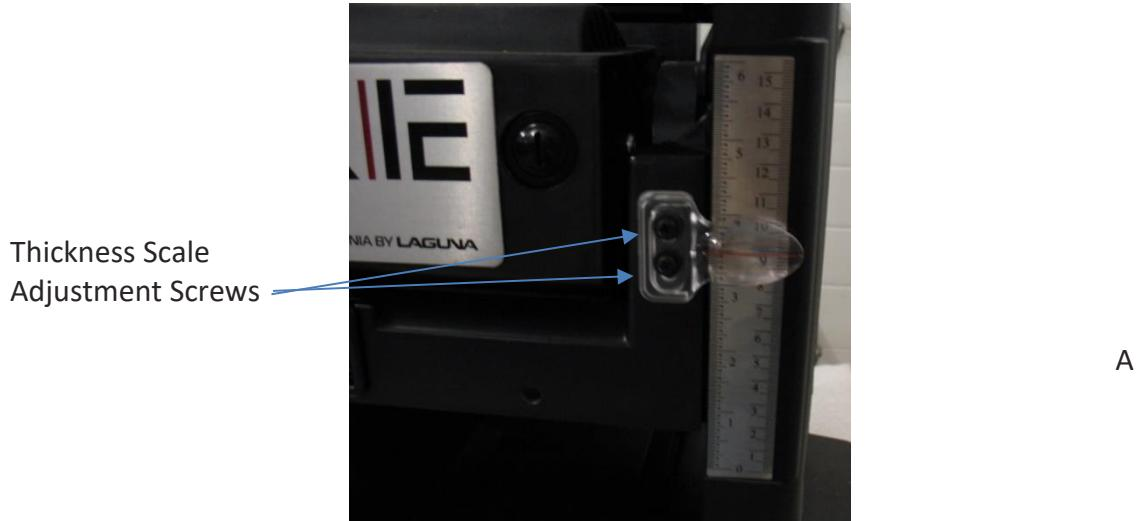

Figure 7: Thickness Scale Calibration
8. Loosen the two screws of the Thickness Scale pointer and adjust the pointer (Fig. 7) until it corresponds to the measured thickness and tighten the screws.